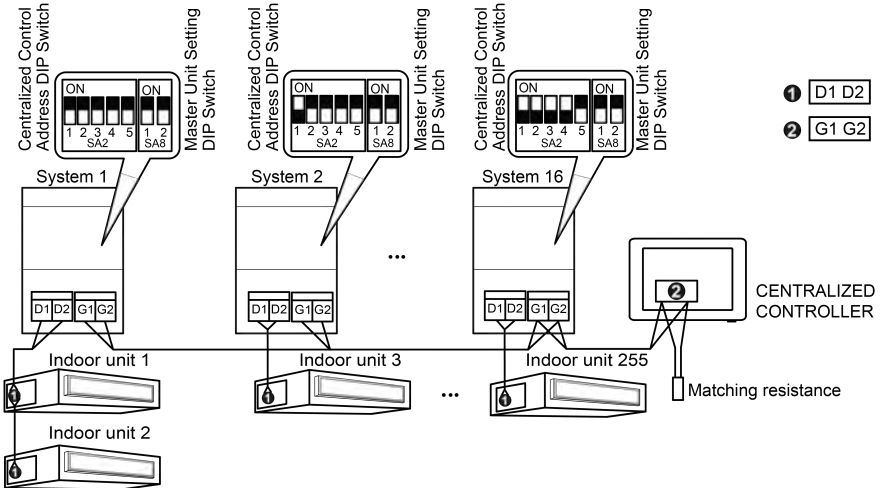
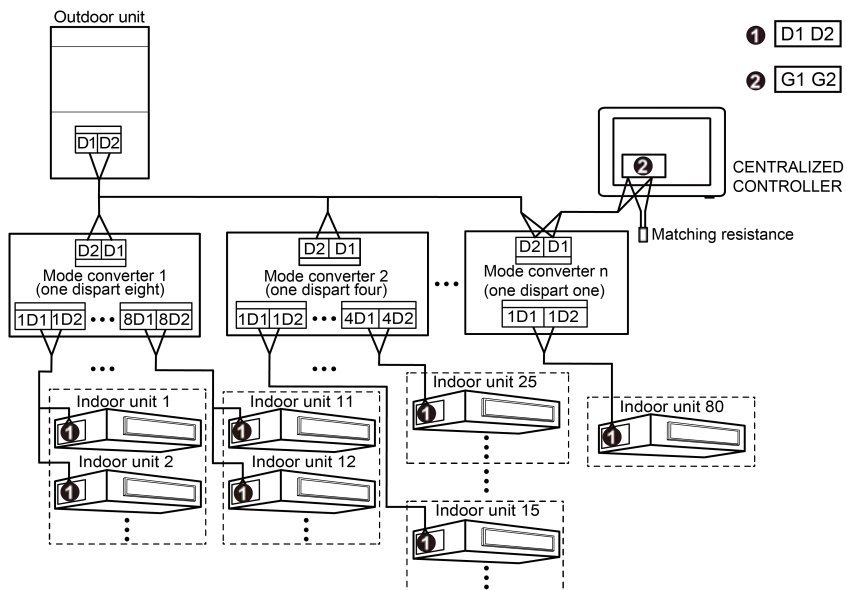

Fig.3.5 Centralized Controller Connected with Outdoor Network
Fig. 3.6 Centralized Controller Connected with Heat Recollection Mode Converter Network
- (3) If the centralized controller is to be connected with the network of outdoor units, connect according to fig.3.5. The centralized controller can only be connected with the terminal system of the outdoor network. A matching resistance needs to be added with the communication cords at the G1 and G2 ports.
- (4) The centralized control address DIP switch (SA2\_Addr-CC) indicates the centralized control address required when different refrigerating systems are controlled in a centralized manner. The default factory setting is "00000".
- (5) If the centralized controller is to be connected with the network of heat recollection, connect according to Fig.3.6. The method 2 is also applicable to centralized controller switching in heat recollection network.